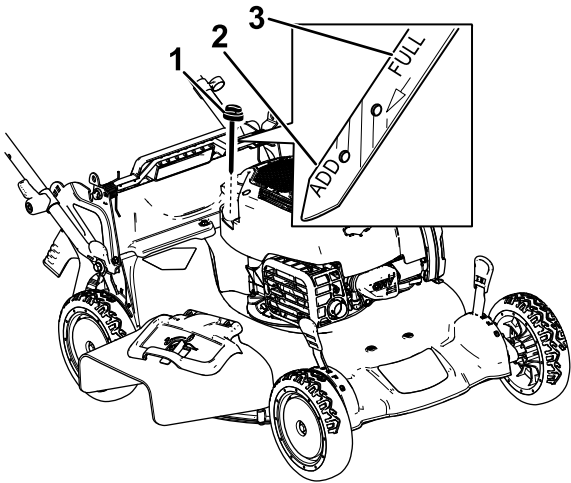

Figure 31
- 3. Remove the dipstick by rotating the cap counterclockwise and pulling it out (Figure 31).
10. Read the oil level on the dipstick (Figure 31).